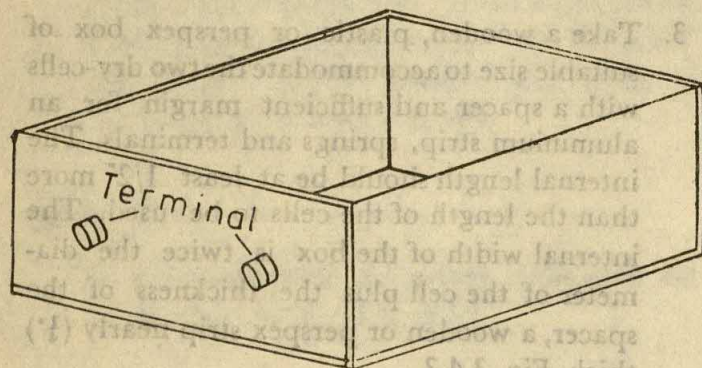

FIG. 3.4.4
4. Fix up two terminals leaving a space from the bottom of the box equal to the radius of the cell. Let the red terminal screw make contact with the brass cap and the black one connected to the spring touching the flat surface. (Fig. 3.4.4)